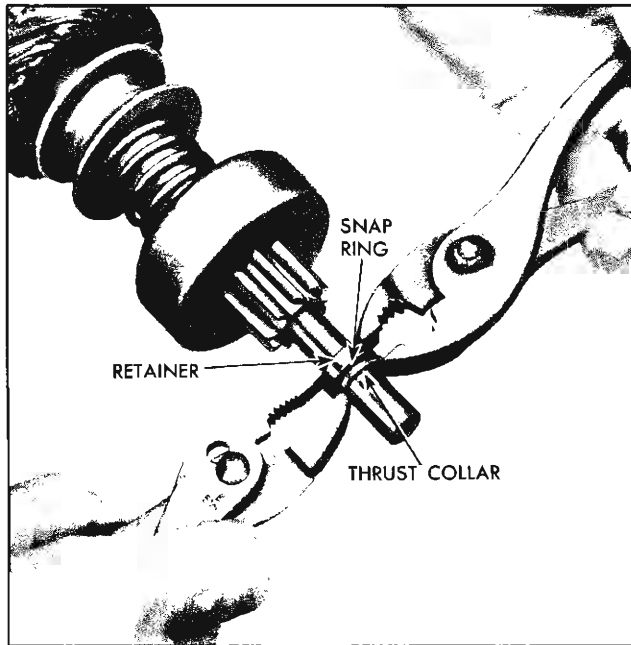

Fig. 11-11 Forcing Retainer Over Snap Ring
e. Assemble thrust collar on shaft with shoulder next to snap ring (Fig. 11-11).
f. Place armature flat on work bench, and position retainer and thrust collar next to snap ring. Then, using two pairs of pliers at same time (one pair on either side of shaft), grip retainer and thrust collar and squeeze until retainer is forced over snap ring (Fig. 11-11).